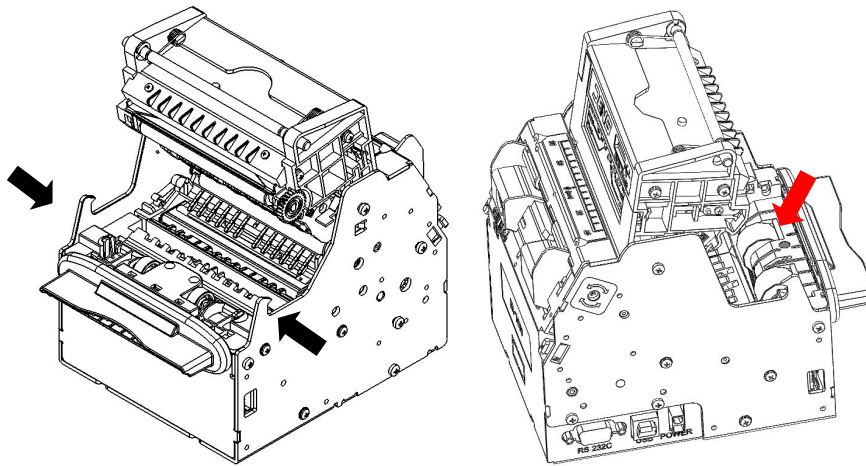

Figure 5.3-1 Cleaning paper out sensor
- 3) Slightly press the latch on Presenter upper path in the direction shown in the figure 5.3-1, remove the Presenter upper path module, then the dustproof cover of paper out sensor located on Presenter path can be seen. Wipe off dust and stains on the surface of the dustproof cover with soft cotton cloth dipped with pure alcohol (it should be wrung out);
- 1) Refer to step 3 in “5.3 Cleaning paper out sensor”, slightly press down the latch on Presenter upper path in the direction shown in figure 5.3-1, and then remove Presenter upper path module;